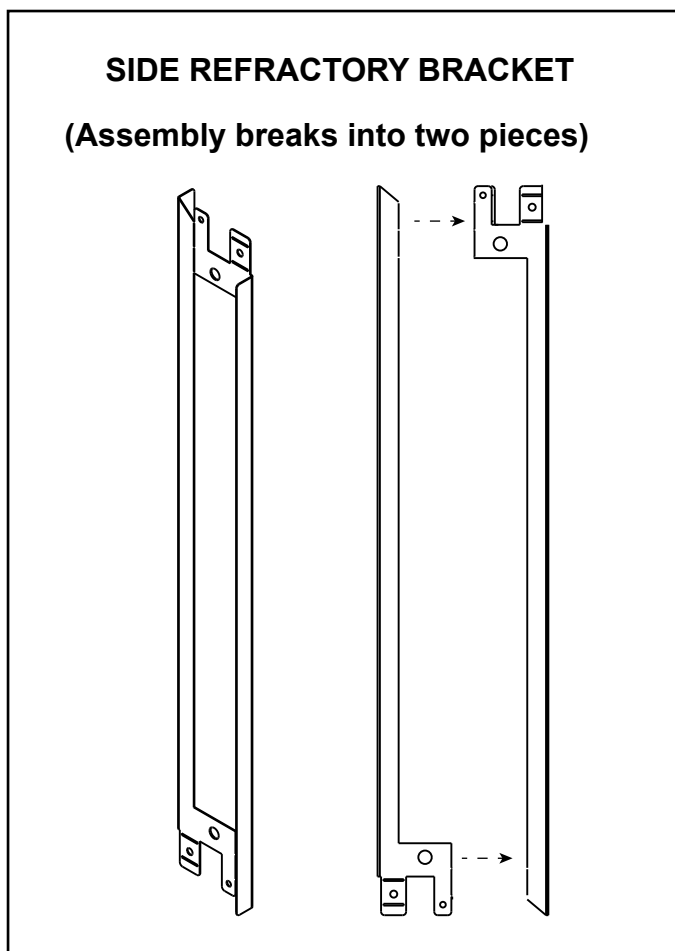

Figure 1 Side Refractory Bracket
- (1) Side Refractory Bracket Assembly (See Figure 1)